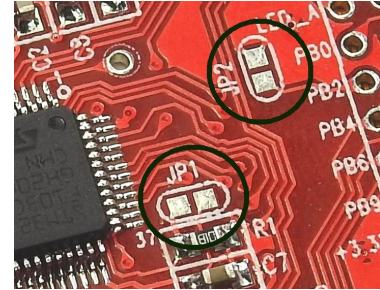

Fig. 4
- 1) Close the jumpers JP1 and JP2 (see Fig. 4) on DSO138mini main board with solder. This will make the MCU enter bootloader instead of the main firmware at next power up.